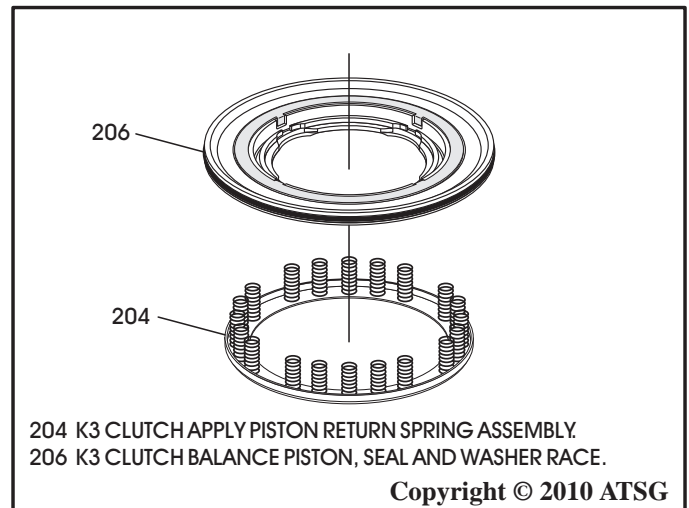

Figure 136
7. Install the apply piston return spring assembly to the bottom of balance piston, as shown in Figure 136, and retain with Trans-Jel®.